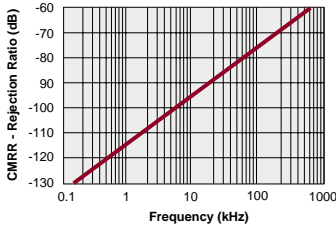
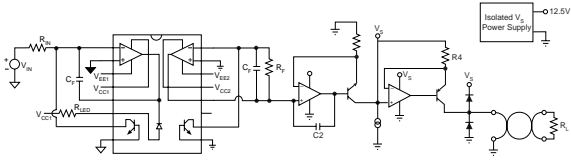

Figure 1A. Common Mode Rejection
Figure 1B. 0-10V to 4-20mA Converter
When the LOC is used in the photoconductive mode, the phototransistors are operated with the collector and base reversed biased as shown in figure 1A. The equivalent circuit model is shown in figure 1B which shows the photocurrent source I , dark current component I_D , intrinsic diode D , and junction capacitance C_p . The incident flux from the LED on the phototransistor causes a photocurrent (I) to flow from the collector to the base and through the load resistor R_L . This photocurrent is linearly proportional to the LED flux. The output voltage V_o results from the product of the photocurrent (I) plus a small dark current times the load resistance R_L : $V_o = [I + I_D] \cdot R_L$. The dark currents from both phototransistors track closely and are canceled when used in the servo mode.
of the junction is wider than when no bias or forward bias is applied. The wider depletion area of the junction results in a lower junction capacitance (C_p in figure 1B) which results in a faster rise time or responsivity:
The LIA100P, with a typical Common Mode Rejection Ratio of 130dB (see figure 1A) and isolation voltage up to 3750V_{RMS} is a good choice for this kind of application.
The example circuit for this application is shown in figure 1B.